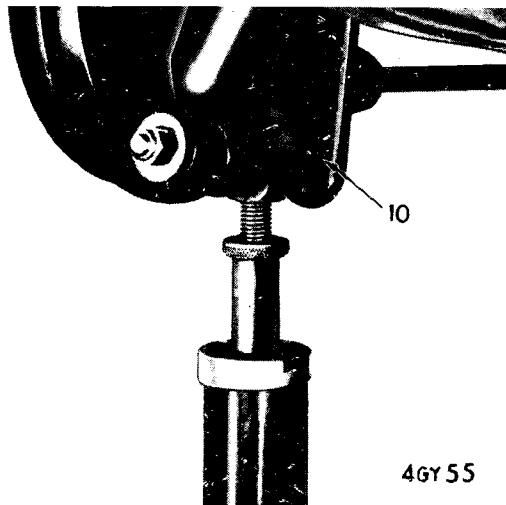

Fig. 29. Jacking vertical link
1. Jack up the vertical link (10) to relieve the damper (9) of load, as shown on Fig. 29, remove the bolt (44) from the upper attachment and the nyloc nut (13) from the lower damper eye.
1. Jack up under the vertical link to relieve the damper of load as shown on Fig. 29.